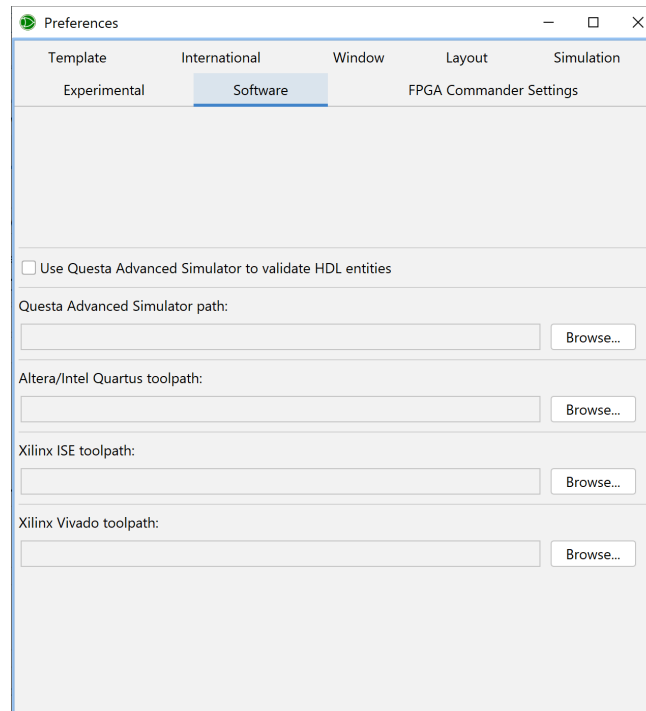

Figure 2.7: The Preferences: Software tab
7. Navigate to the **Software** tab (Figure 2.7). Click on **Browse** next to the **Altera/Intel Quartus toolpath**. An open folder dialogue should open.